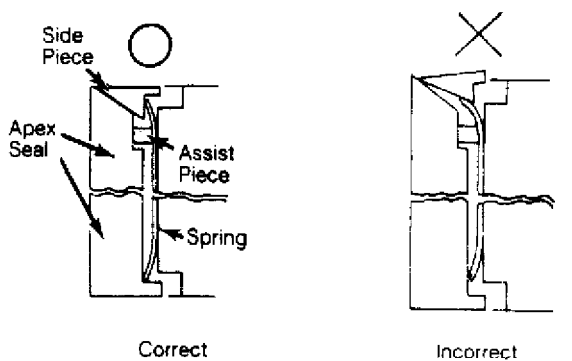

Fig. 25: Positioning Apex Seal and Spring
5) Install side pieces in proper positions on end of apex seals. Lubricate with engine oil. Check that side pieces are set correctly on springs. See Fig. 25.